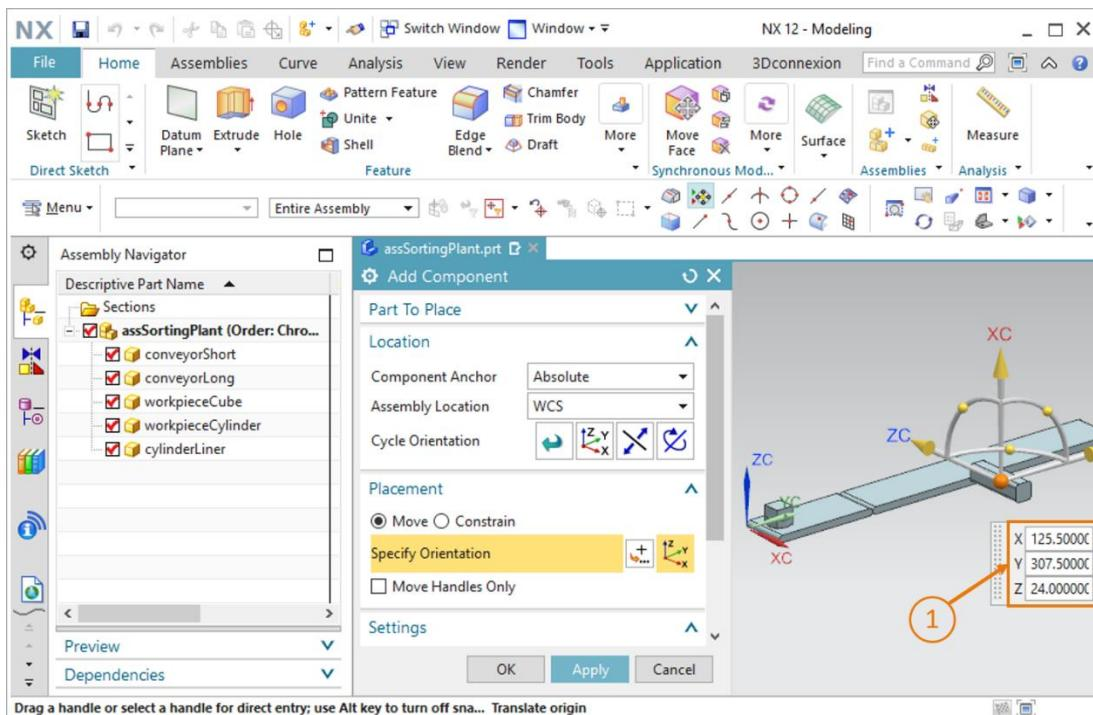

Figure 62: Positioning the "cylinderLiner" model in the assembly
- Specify the following values for the base of the thrust cylinder (see Figure 62, step 1):